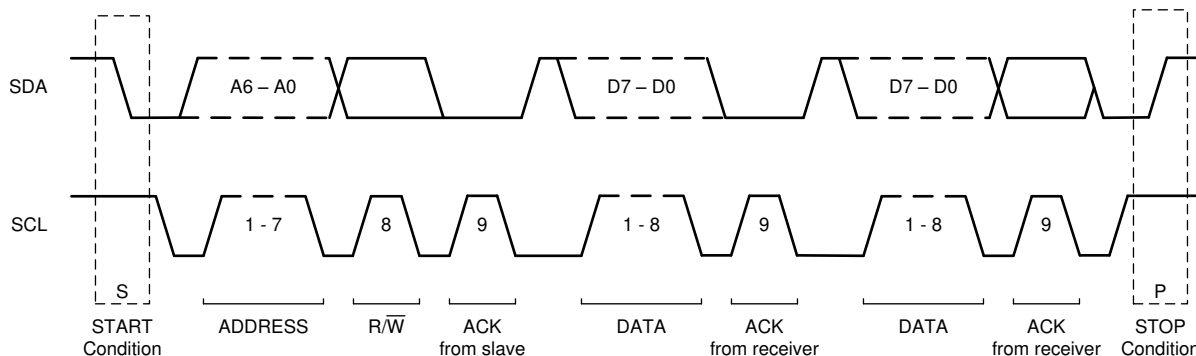

Figure 34. I2C Data Transfer Format
Figure 34 shows the format of the data transfer. The master initiates all transactions with the ADS1219 by generating a START (S) condition. A high-to-low transition on the SDA line while SCL is high defines a START condition. The bus is considered to be busy after the START condition.